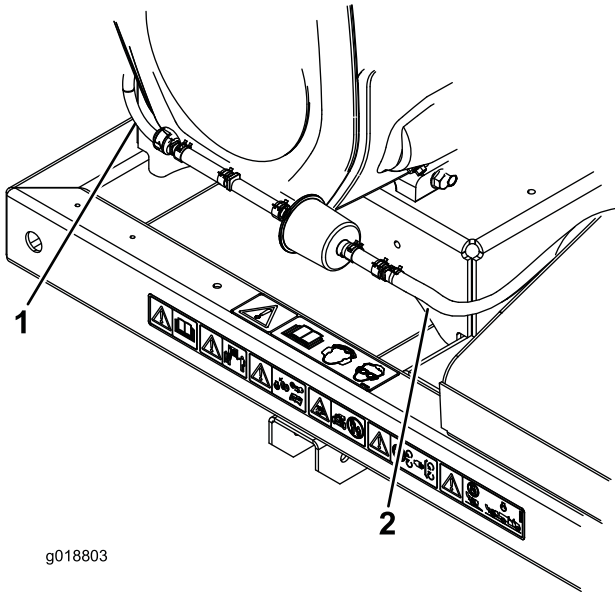

Figure 2
4. Connect the end of the 30 inch (76 cm) hose to the carbon canister fitting (Figure 2).
5. Connect the end of the 17.25 inch (44 cm) hose to the engine fitting (Figure 2).